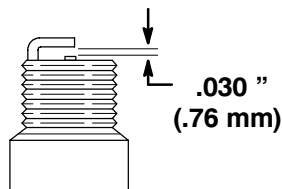

Figure 18
6. Set the air gap between the spark plug electrodes at .030 inch (.76 mm) (Fig. 18).